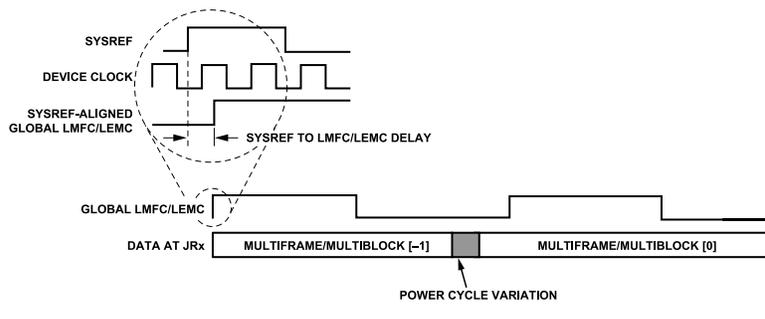

Figure 79. SYSREF and LMFC/LEMC
The JESD204B/C protocol organizes data samples into octets, frames, and multiframe (or multiblocks), as described in the JESD204B/C Transmitter Transport Layer section. The LMFC/LEMC is synchronous with the beginning of these multiframe/multiblocks. In Subclass 1 operation, the internal SYSREF, and therefore, the LMFC/LEMCs for each device are aligned to the external SYSREF. This is necessary across all links in all the devices within the system that need to be synchronized. Within the Apollo MxFE Device, the SYSREF signal also synchronizes the internal sample dividers. This synchronization is shown in Figure 79. The JESD204B receiver uses the multiframe boundaries and buffering to achieve consistent latency across lanes (or across multiple devices) and to achieve a fixed latency across the power cycles and link reset conditions. Similarly, the JESD204C receiver uses the extended multiblock boundaries and buffering to achieve consistent latency.
- ▶ The total latency variation from one power cycle to another across all lanes, links, and devices must not exceed the lane deskewing capability of the JESD204B/C receiver. For the Apollo MxFE this limit is three PCLK cycles. (120 UI for JESD204B and 198 UI for JESD204C) (see Figure 79). This variation includes both the variable delays and the fixed delays from lane to lane, link to link, and device